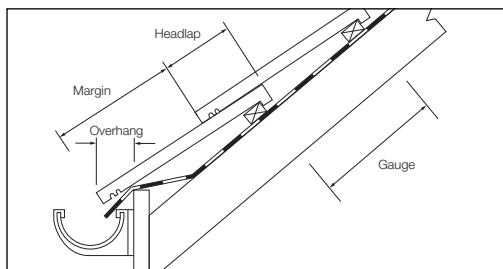

Fig 10 – Typical layout at eaves
- 2 Tiles must overhang fascia board so that water discharges into centre of gutter (Fig 10).